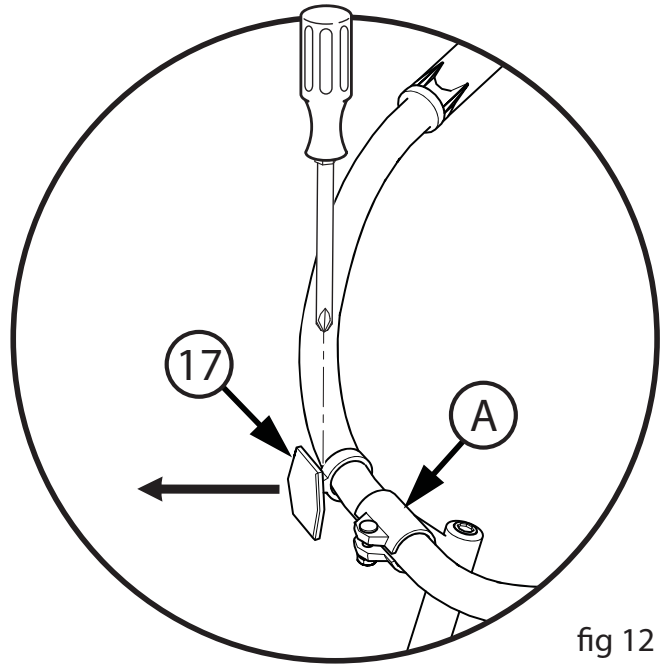

fig 12
1. Position Reflector (17) so it is near the Stem (A) and points straight forward (**fig 12**).